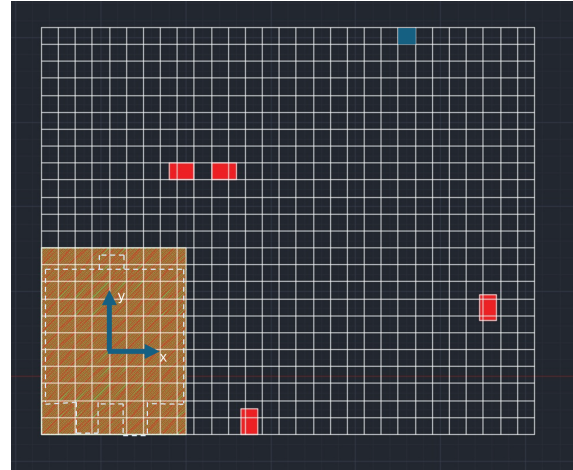

Figure 1: Map
- 1.1. Begin at coordinates (0,0) as shown in Figure 1